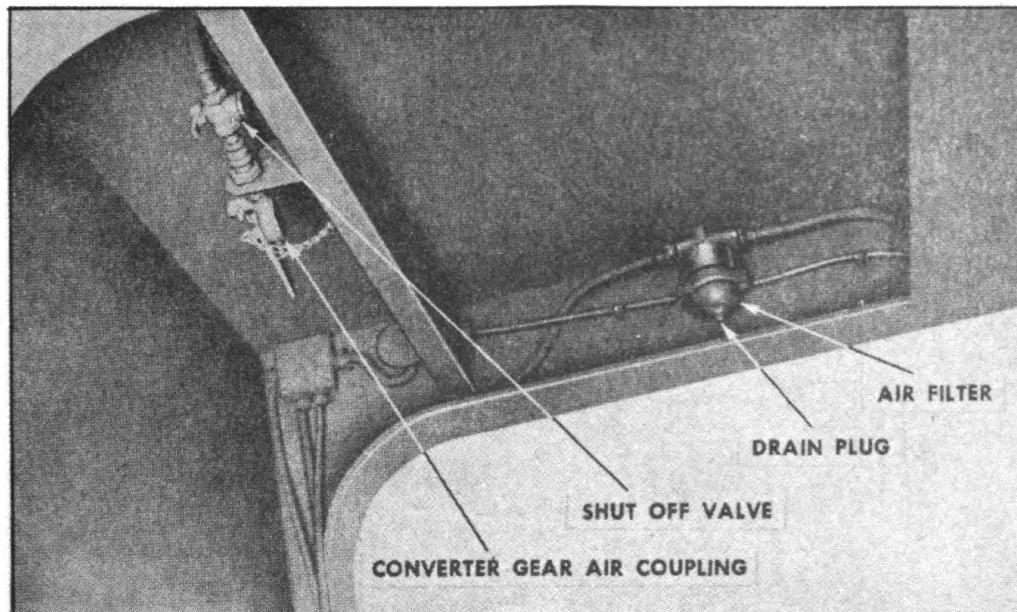
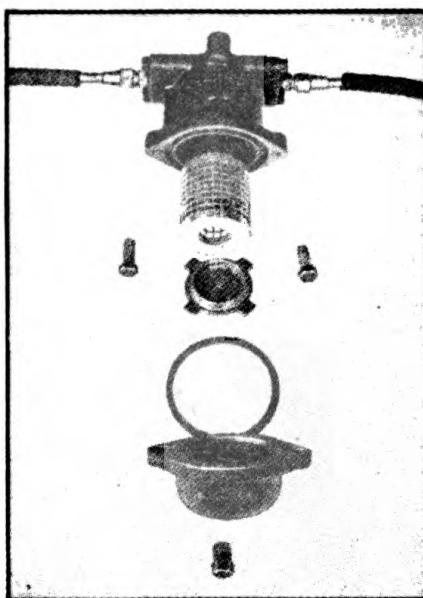

FIGURE 45. AIR FILTER
FIGURE 46. AIR FILTER—DISASSEMBLED
17. AIR FILTER.—*a. Function* (Figure 45).—Air filters are mounted on inside of main frame side rails, just ahead of drop in frame, one filter in service line and one in emergency line. Filter is designed to remove dirt, water, and oil from air, thereby increasing the life of the functional parts of the emergency relay valve.
*c. Disassembly.*—(1) Disconnect the lines leading into the filters. Remove the two bolts holding filter to bracket.
(2) Remove the two cap screws (1) holding cup (2) to upper section of filter. Tap down on cup, separating cup from upper section.
(3) Remove rubber gasket (3); remove cleaner seat (4) and pull out cleaner (5) (Figure 46).